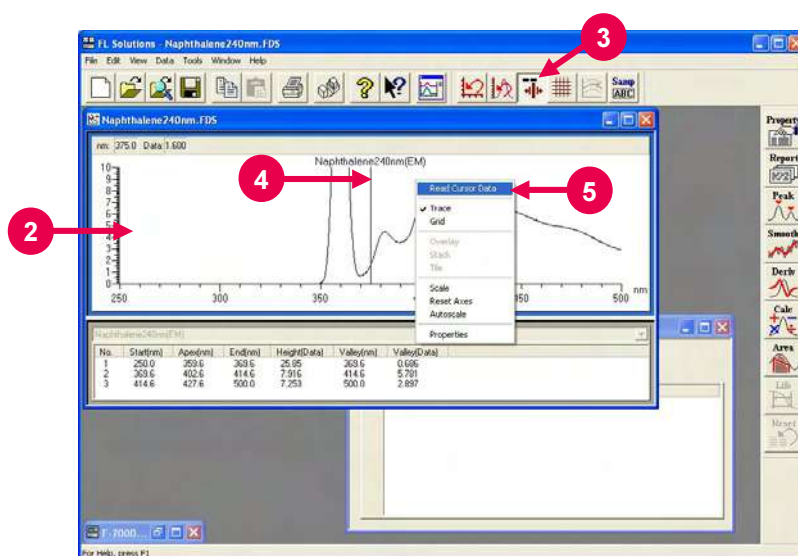

Fig. 7-58
(4) Click the spectrum display window. (Refer to ② in Fig. 7-58.)
(5) Click the  (trace cursor) button on the Spectrum toolbar. (Refer to ③ in Fig. 7-58.) A trace cursor will appear on the spectrum. (Refer to ④ in Fig. 7-58.)
- (6) Move the trace cursor onto a spectrum to be traced and click the right button of the mouse. A menu box will appear. Select "Read Cursor Data" from the menu box (refer to ⑤ in Fig. 7-58), and the wavelength and photometric values will be read into the Read Data box.